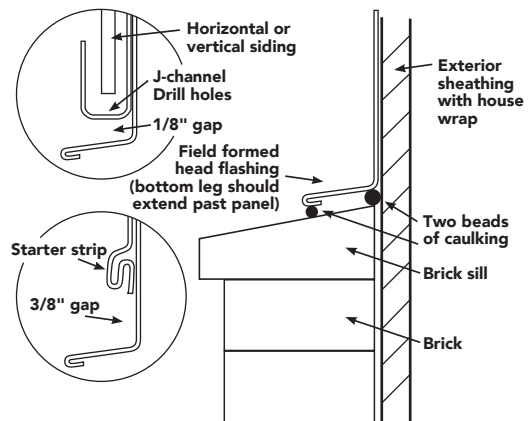

Figure 50
- Caulk where the sheathing meets the brick sill. A head flashing (or drip cap) should be field formed and installed, then caulked where it meets the brick sill. The top of the flashing needs to be integrated or sealed to the water barrier (Figure 50).